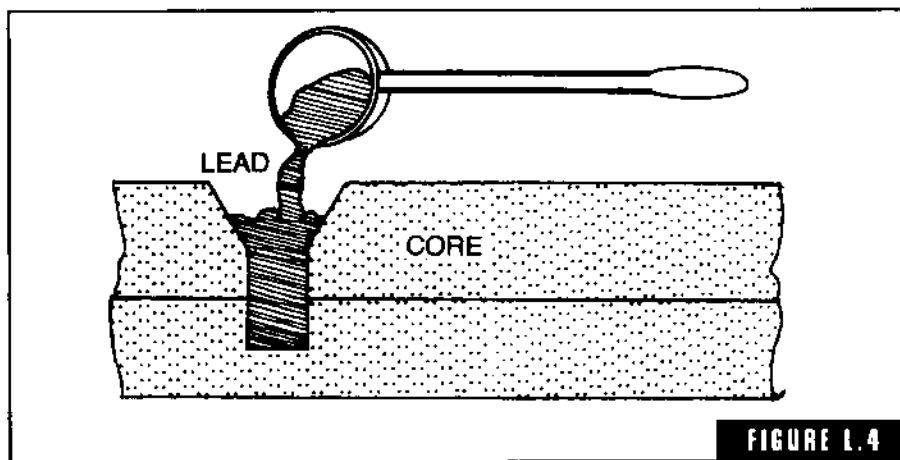

FIGURE L.4
**leaded cores** A cousin of bolted cores (Fig. L-4). In place of bolting a core together you can lead them together by pouring molten lead into the attachment holes and then covering the top counter sink with a cap core. The cores must fit very closely to prevent lead from running out at the joint.